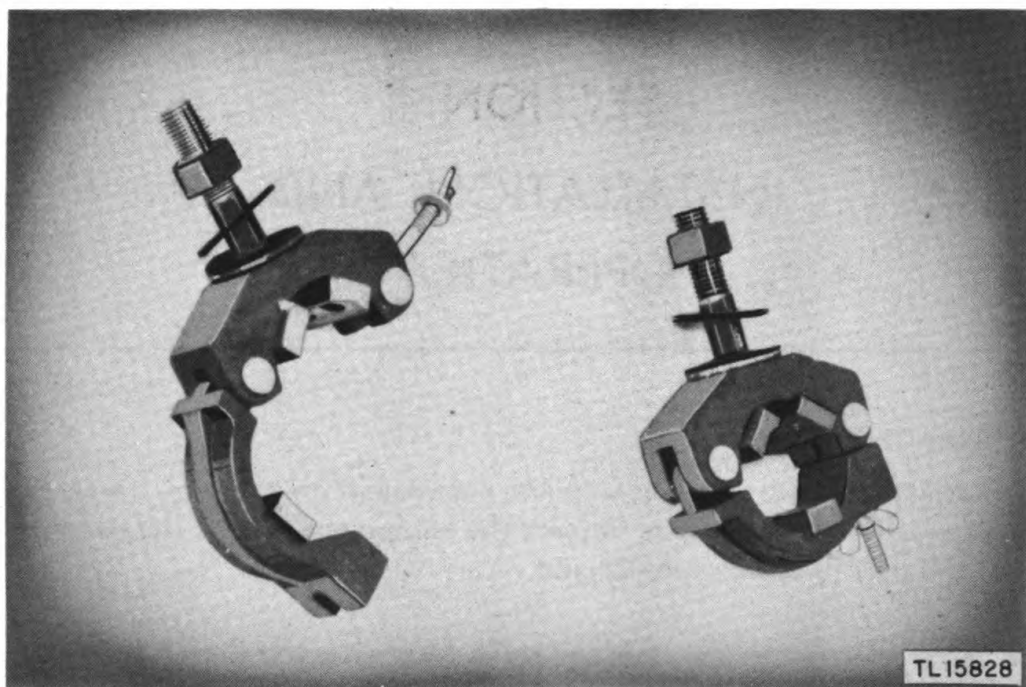

Figure 3. Mast clamp assembly, open and closed.
b. **Mounting.** Drill two holes, $\frac{7}{8}$ inch diameter, 60 to 65 inches apart along a vertical line, in the side of the shelter or vehicle. Mount a mast clamp assembly (fig. 3) in each hole. Place a $\frac{3}{4}$ -inch rubber gasket next to the wall on the outside, backed up by a steel washer. Put another steel washer on the inside and then turn up the nuts by hand.